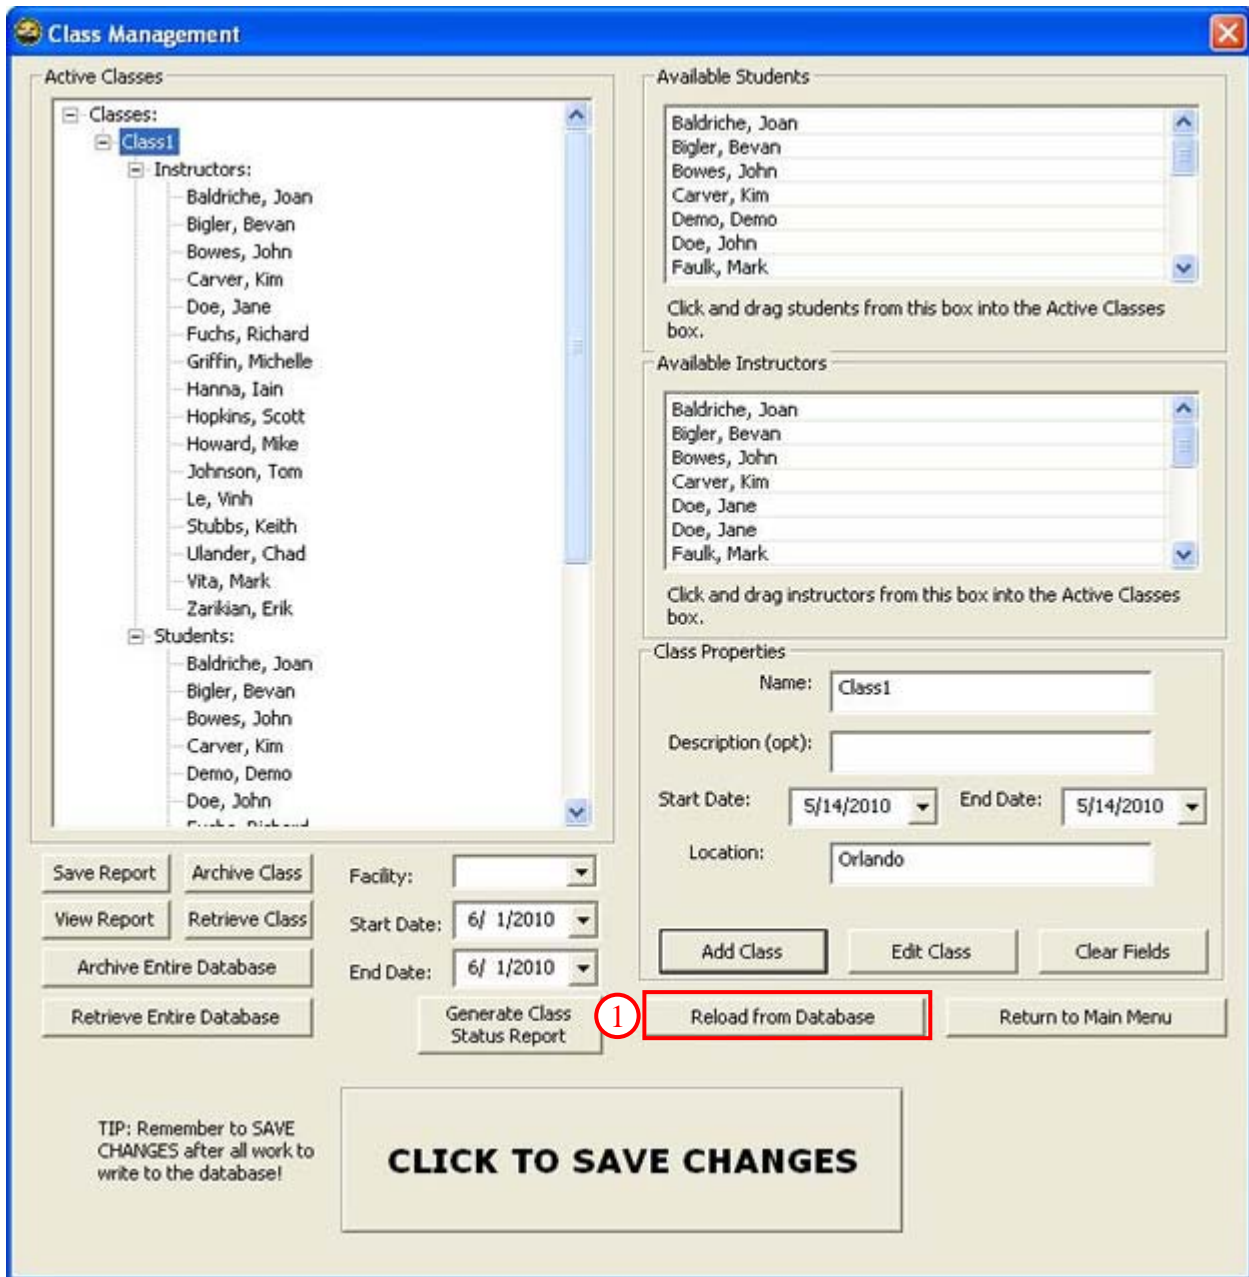

Figure 96. Class Management - Reload From Database
1. Click the [RELOAD FROM DATABASE] button (Figure 96) to reload all data from the database.